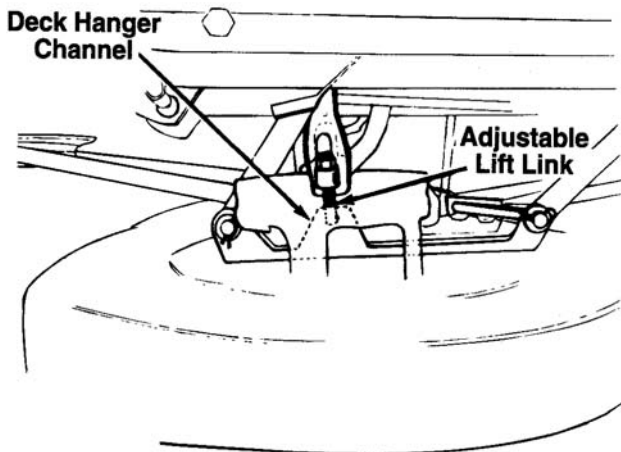

Figure 12-52. Leveling the Deck
2. Pull the adjustable lift link out of the deck hanger channel. See Figure 12-52. Turn the adjustable lift link up or down as necessary to level the deck. Usually only one or two turns are needed.